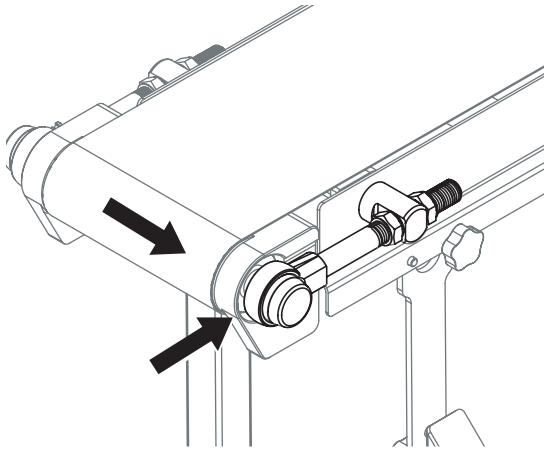

Figure 52
- a. Loosen the nut to shorten the length of the idler tail shaft and bring the belt closer to that side of the conveyor (**Figure 52**).